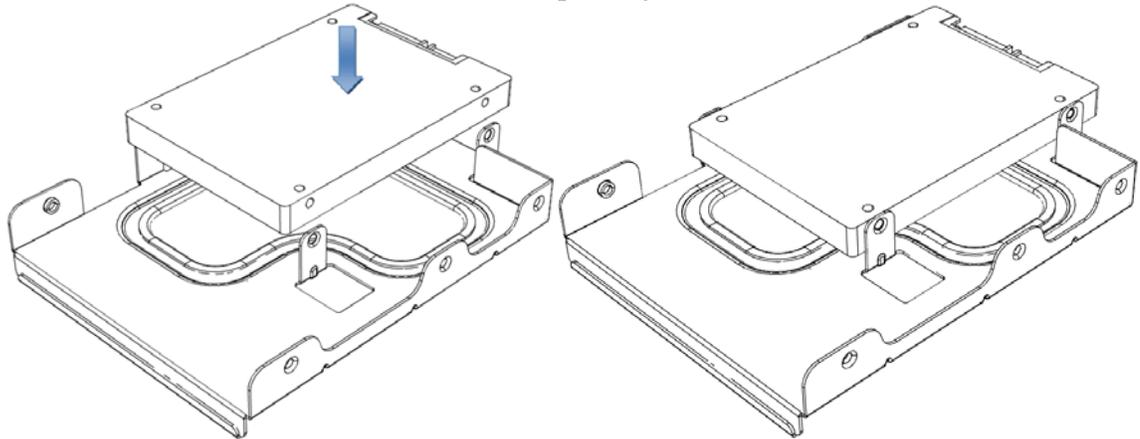

Figure 3. Installing 2.5” HDD into the bracket
- Figure 3. Installing 2.5” HDD into the bracket 3